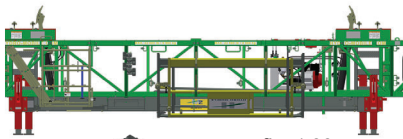

fig. 1.23
- 1- Make sure that there are no guardrails installed on the unit (fig. 1.23).